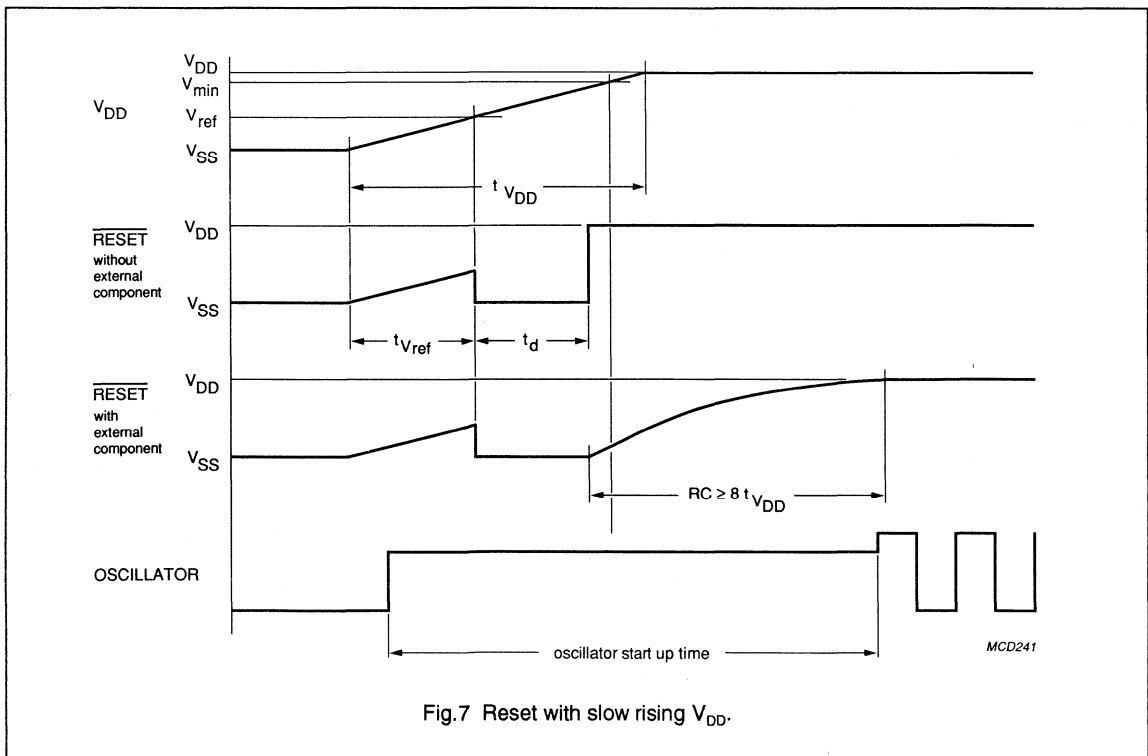

Fig.7 Reset with slow rising V_{DD}.
3. External components are required if V_{DD} has a slow rise time, such that after the time period ($t_{Vref} + t_d$) has elapsed the supply voltage is still below the minimum operation voltage (V_{min}). See Figs 7 and 4. In order to ensure a correct reset operation the time constant RC must be $\geq 8t_{VDD}$.